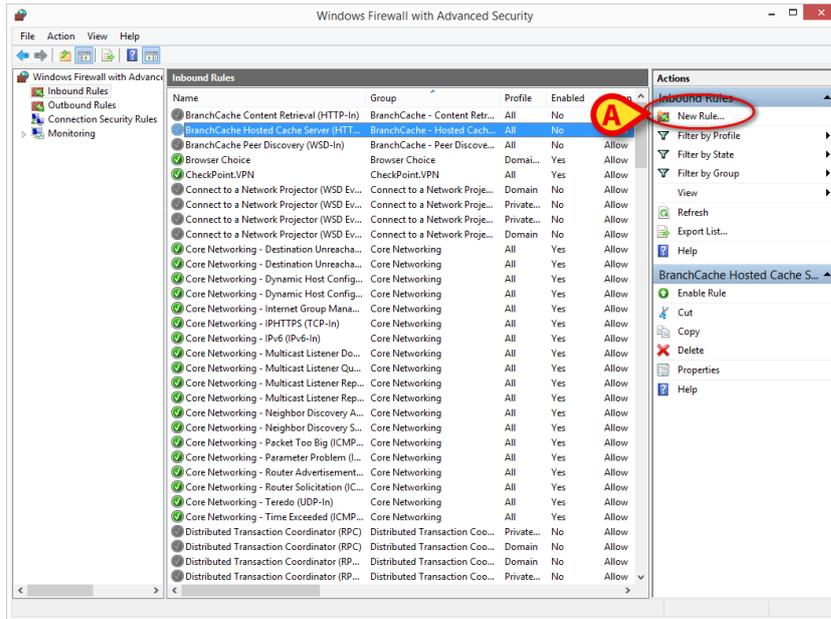

Fig 5
- 3 Click **New Rule** (Fig 5 A).